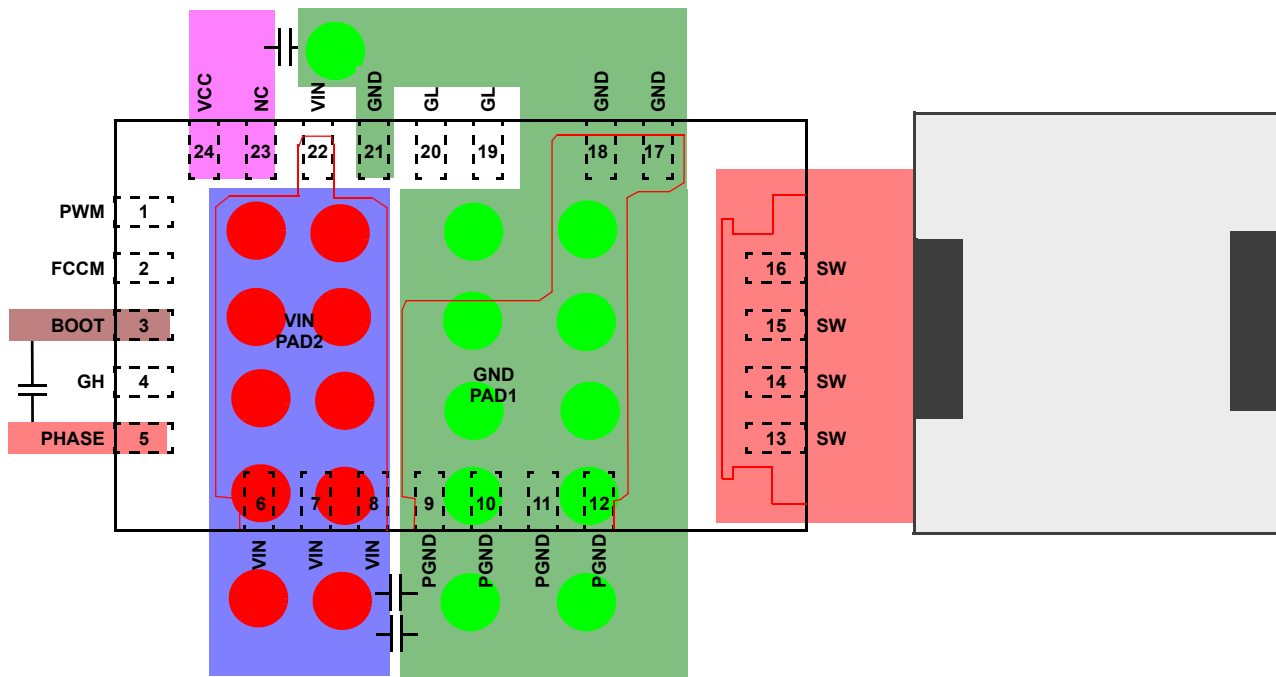

FIGURE 20. PCB LAYOUT FOR MINIMIZING CURRENT LOOPS
- Place multiple 10μF or greater ceramic capacitors directly at the device between VIN and PGND as indicated in Figure 20. This is the most critical decoupling and reduced parasitic inductance in the power switching loop. This will reduce overall electrical stress on the device as well as reduce coupling to
- Place VCC and BOOT-PHASE decoupling capacitors at the IC pins as shown in Figure 20.